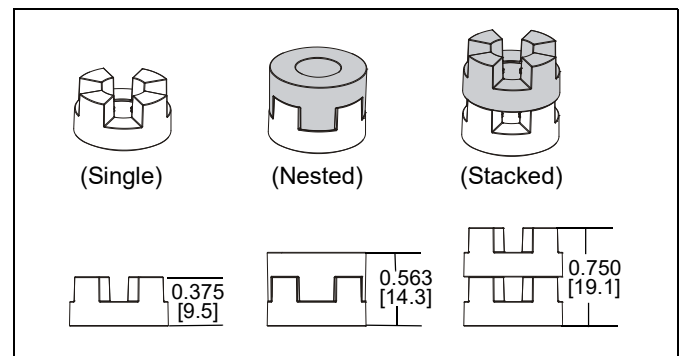

Figure 11
NOTE: The nesting spacers (MA) may be used separately, or put two together in different configurations to create different size spacers. (See Figure 11)
2. Hang screen onto the top rail of the mount (CC). (See Figure 11)